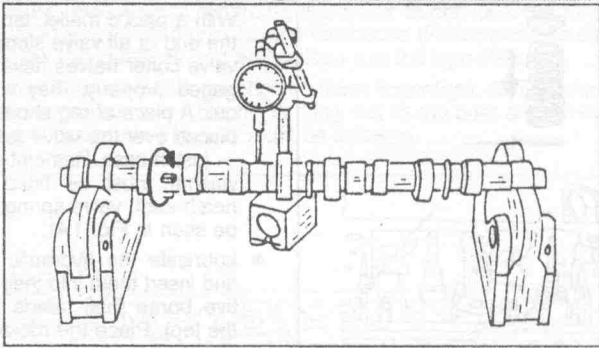

Fig. 1.39. — Camshafts can be checked for run-out as shown.
**Camshaft:** Place the camshaft with the two outer bearing journals into "V" blocks or clamp the shaft into a lathe and apply a dial gauge to the centre. Slowly rotate the camshaft and read off the indication of the dial gauge. If the run-out of the shaft is more than 0.01 mm, replace the shaft, as it is bent (see Fig. 1.39).